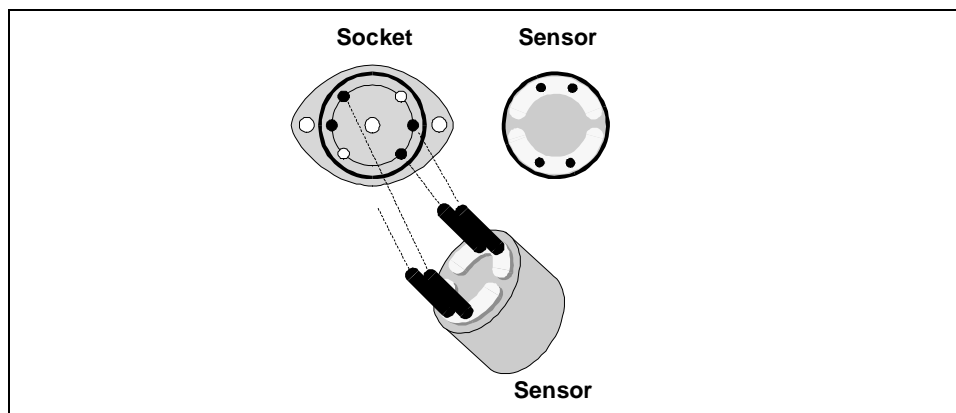

Figure 5-8. Orienting the New Hydrocarbon Sensor
4. The new sensor (P/N 938918) has only four prongs, although the sensor socket has six holes. Plug the sensor into the four holes indicated in Figure 5-8.